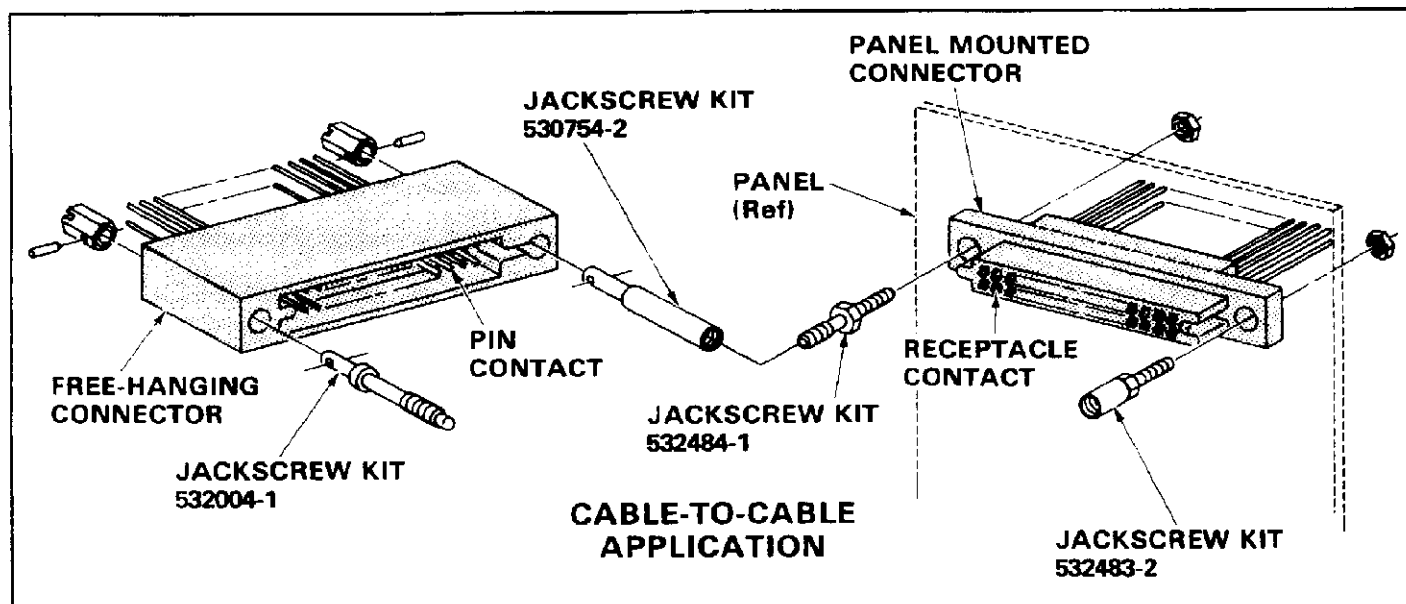

Fig. 3
2. Free-hanging and Panel Mounted Connector (Figure 3)